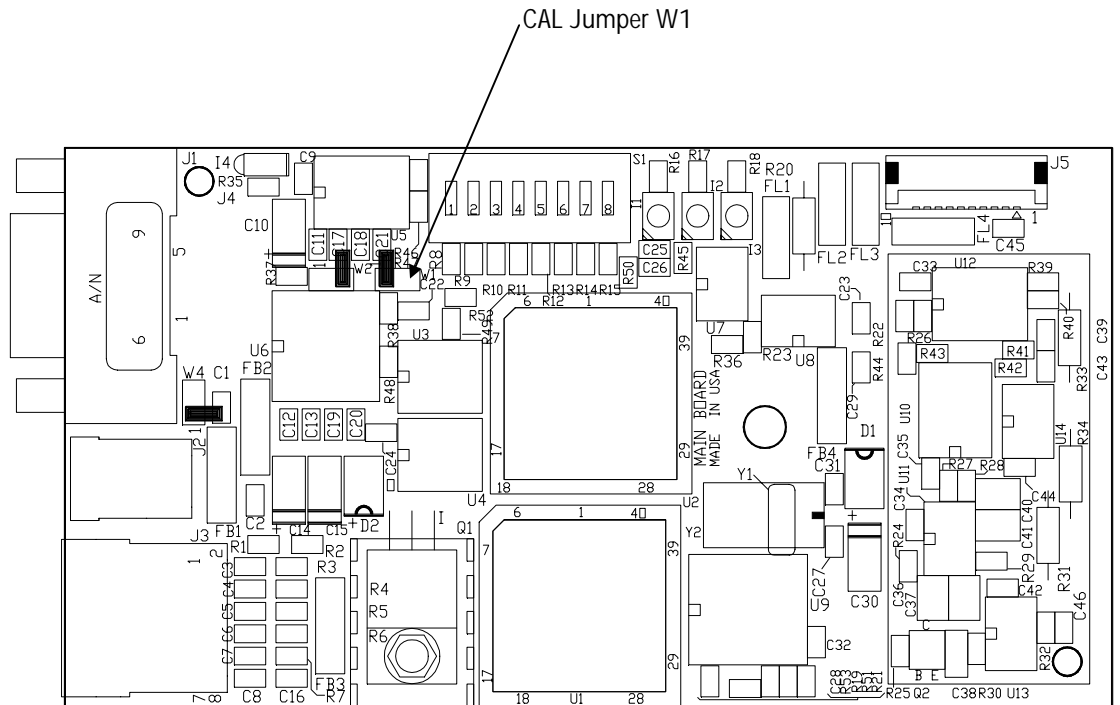

Figure 2-g: CAL Jumper on Main PCB
3. Remove the calibration jumper (W1 in Figure 2-g).